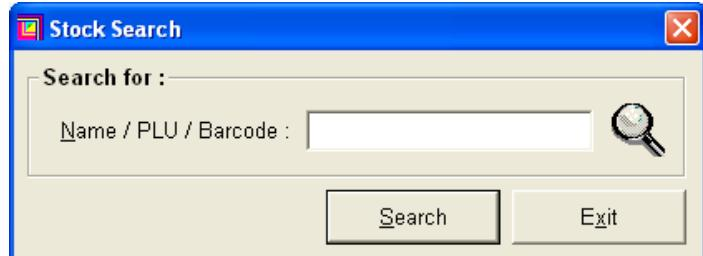

Figure 334
2. The 'Stock Search' screen will appear (as shown in Figure 334). From this point you can either scan the item, key in the PLU/PDE of the item or key in part of the description.